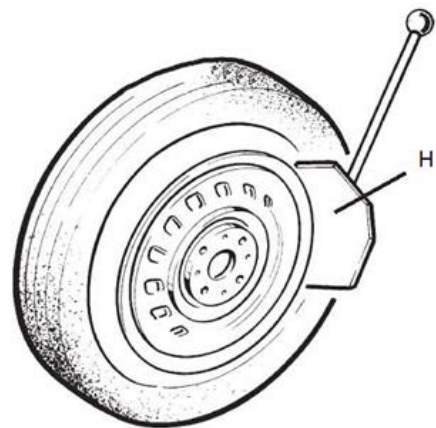

Fig. 4-3-2
- Press the pedal (K) to activate the bead lifter and release it when the blade has reached the end of its travel or as soon as the bead is lifted (see Fig. 4-3-2)